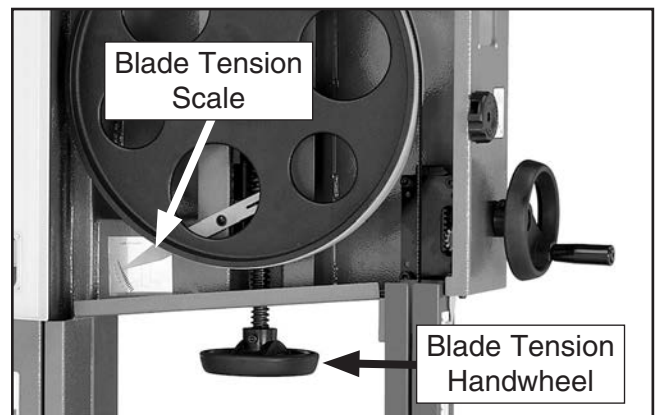

Figure 29. Blade tensioning controls.
- Engage the quick tension lever and turn the blade tension handwheel until the tension scale (**Figure 29**) reads between 4 and 6.